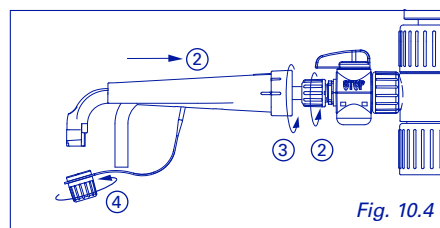

Fig. 10.4
- ③ Attach delivery jet to stopcock (Fig. 10.4)